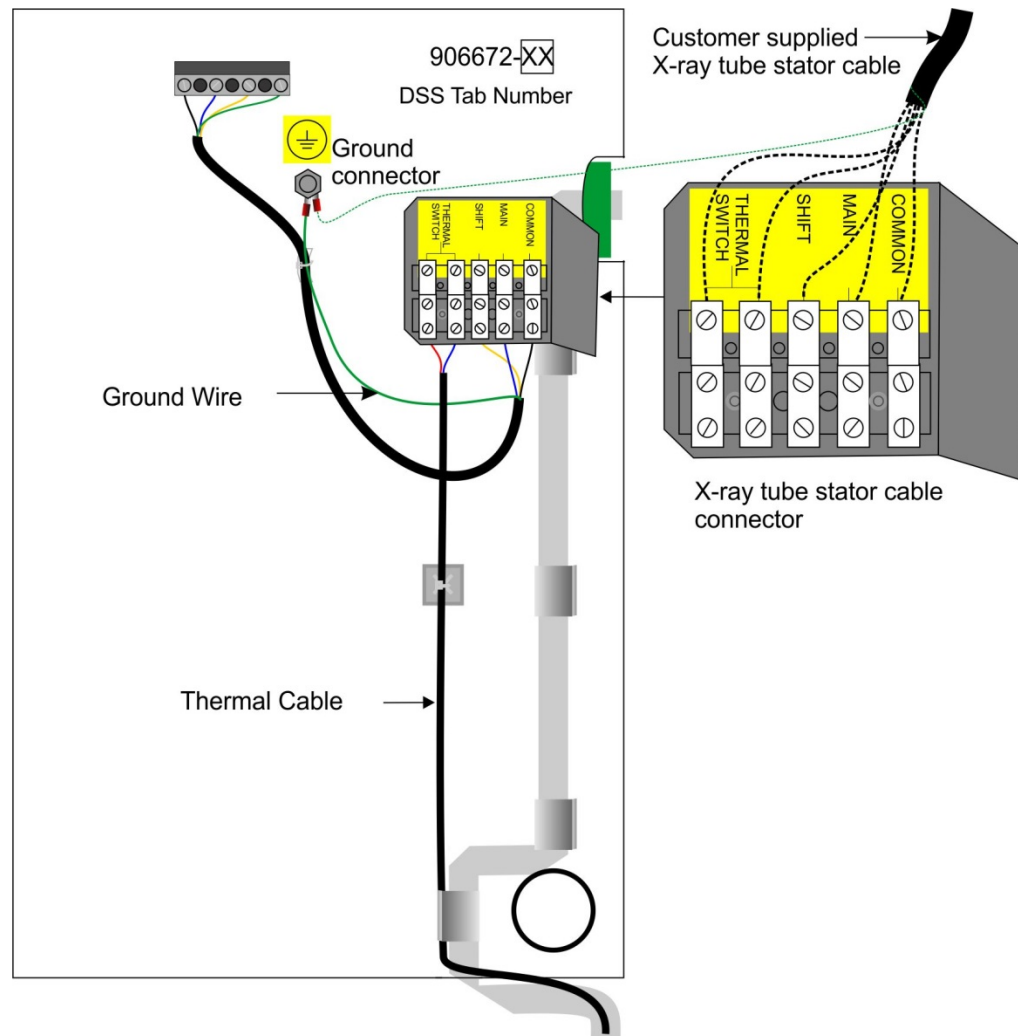

Figure 2-9: the connector of the X-ray stator cable for the dual-speed starter
The connector is designed for connecting the X-ray stator cable for the dual-speed starter is located on the back of the DSS board mounting plate as shown in Figure 2-9.
1. Route the X-ray tube stator cable towards the X-ray stator cable connector on the back of the DSS board mounting plate. Refer to Figure 2-9.
2. Connect the shield ground of the stator cable to the ground connector on the mounting plate as shown in Figure 2-9.
3. Connect the X-ray tube stator cable to the X-ray stator cable connector as shown in Figure 2-9.